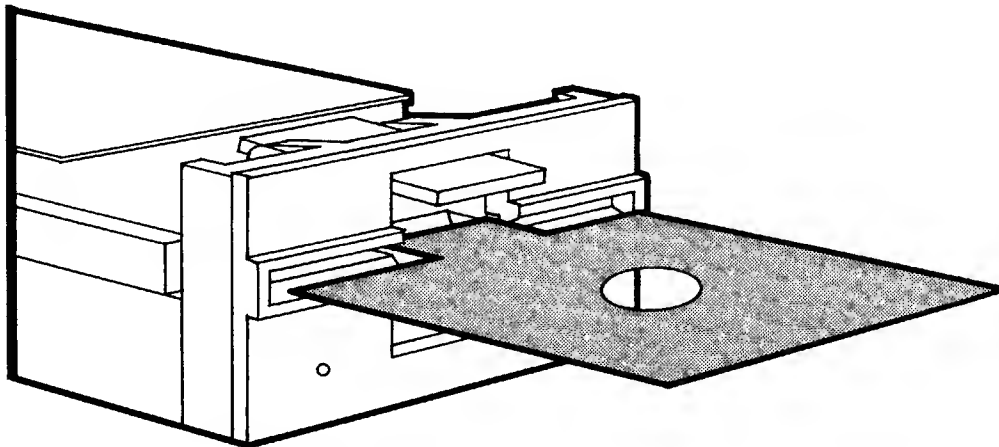

FIGURE 34. CARRIAGE STOP
- B. Insert the carriage stop as you would a diskette, with the tab under the head carriage (see Figure 34).